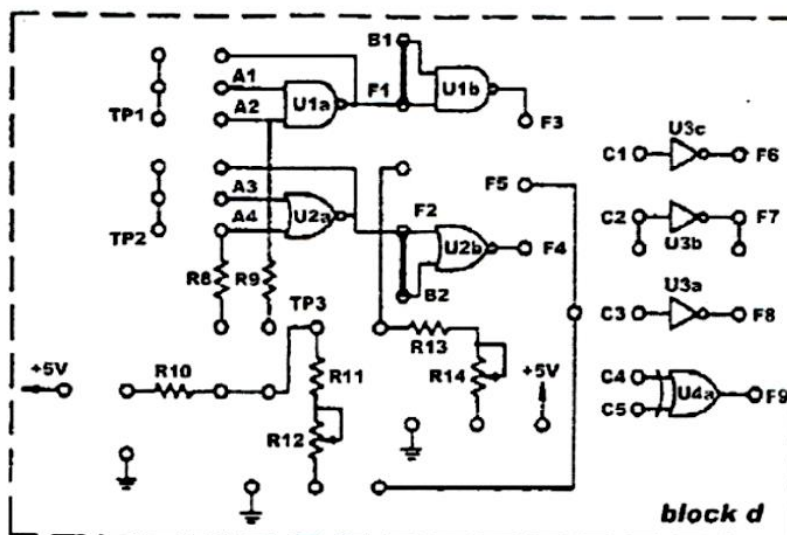

Fig. 1-6 STATE
1. Insert connection clips according to Fig. 1-6. U1a and U1b will be used in this section.